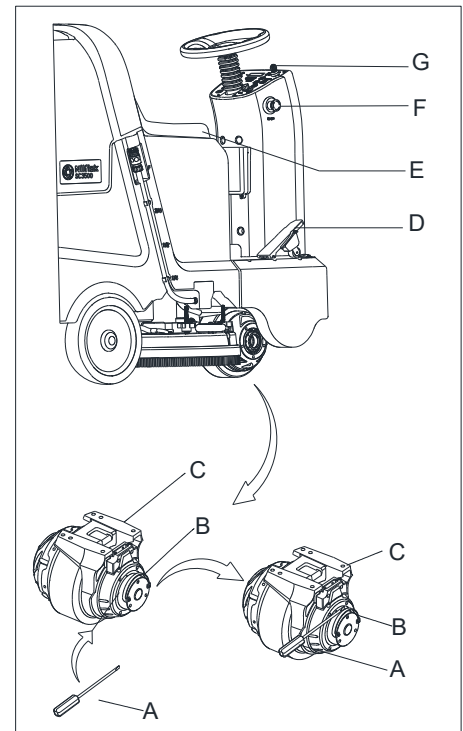

Figure 11
- Turn the key switch (G Figure 11) to “ON”
- Depress the accelerate pedal (D Figure 11) slightly then loosen it to check if the machine can be steered forward and stopped.
- To ensure the security, confirm if the machine can be stopped immediately by pressing the emergency button (F Figure 11). Rotate the emergency button to reset it.
The brake of drive motor is unstuck when the motor works normally, it locks when the motor stops working. In some special cases, such as machine packing/unpacking, machine fault etc., need to move the machine without drive motor working, please insert A screwdriver (Figure 11 A) drive motor brake (Figure 11 B) and motor (Figure 11 C) between the grooves (Figure 11), the machine brake is released, the machine can be moved, after completion, please take out the screwdriver, otherwise will not be able to start the machine.